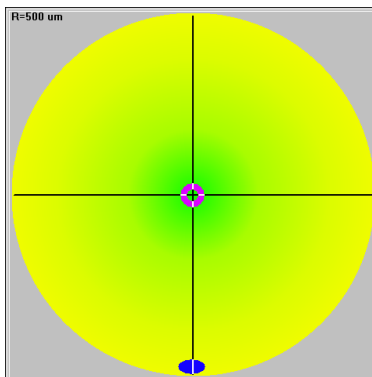

Fig. 5.7: The circular shape indicates the beam centroid location for the selected slit plane. The ellipse shape indicates the location of the beam waist.
- The blue "donut"-shaped icon shown in Figure 5.7 indicates graphically where the beam is centered, this must be near the middle of the cross-hairs after centering the beam.
9. The blue ellipse icon as shown in Figure 5.7 indicates the location of the waist of the laser along the optical axis (z-axis). When measuring a focused beam, the waist is located on the $z=0$ plane slit when the blue ellipse is centered. Otherwise the ellipse will move left/right depending on whether the beam waist is located before/after the $z=0$ plane slit.